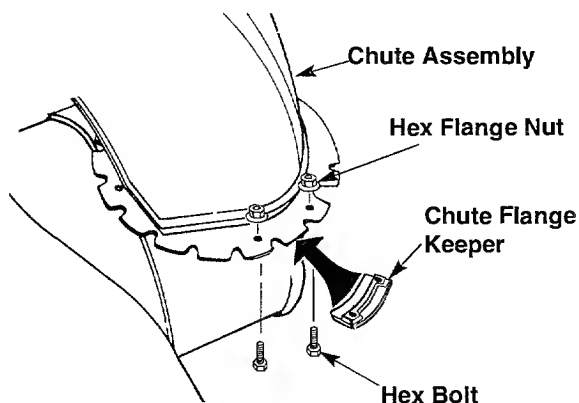

FIGURE 6
- Place chute flange keeper (flat side down) beneath lip of chute assembly. See figure 6.
- Insert 1/4-20 hex bolt up through chute flange keeper and chute assembly as shown in figure 6. Do not tighten at this time. Rotate chute to install all the flange keepers.
- After assembling all three chute flange keepers, tighten then back off 1/4 turn to allow easier movement of the chute. Use (2) 7/16" wrenches.